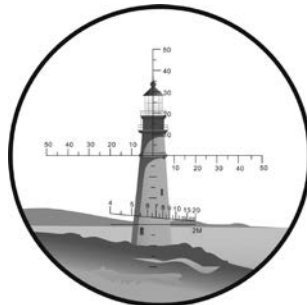

FIGURE 7. VERTICAL VIEW ANGLE MEASURING
A. Vertical View Angle measurement is similar to measuring the Horizontal View Angle. When the Vertical View Angle measurement is small, aim the cross center of reticle at lower part of the object, read the scale value at the top of the object. If the target vertical angle is a little bigger, you can read the upper scale and the lower scale. As shown in Figure 7, the upper line is 35 mils, and the lower line is 40 mils, the total vertical angle is 75 mils.